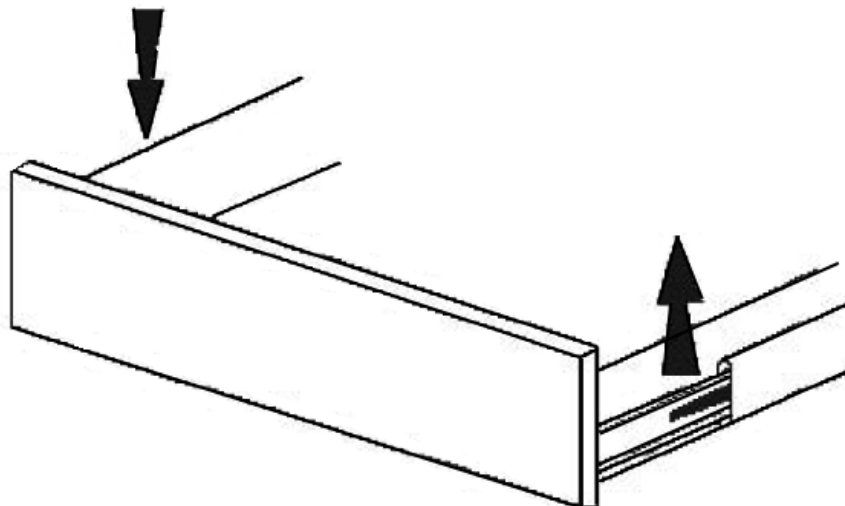

Fig.3
- 4.1.3 Push up on the right hand black lever and down on the left hand black lever as shown in Fig.3 and then pull the drawer outward until it is released from its runners.